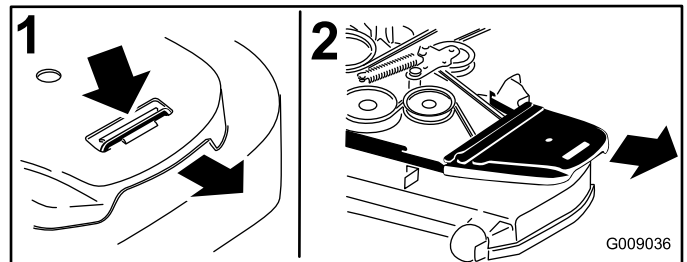

Figure 76
- Remove the belt covers (Figure 76).